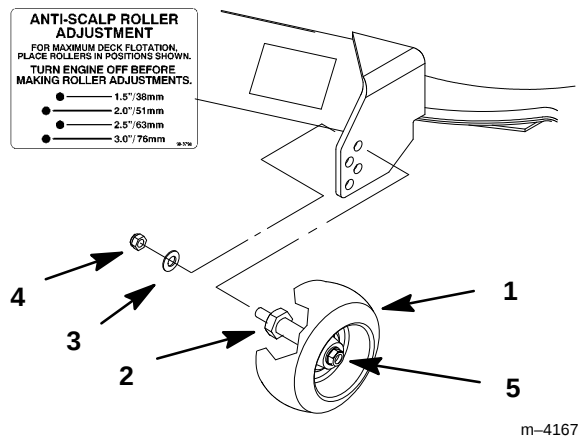

Figure 13
2. After adjusting height-of-cut remove nut and washer while holding stud with wrench (Fig. 13).
Note: Do not remove the wheel nut and washer (Fig. 13).
3. Select hole so gage wheel is positioned to the nearest corresponding height-of-cut desired (Fig. 13).
4. Reinstall the stud nut and washer (Fig. 13).